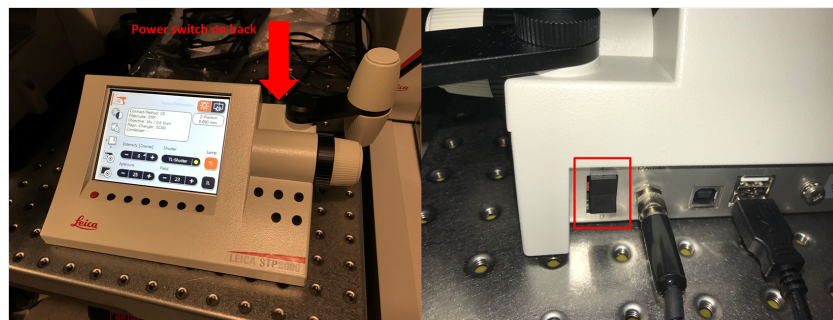

Figure 3
3. Turn on XYZ control panel. See Figure: 3.